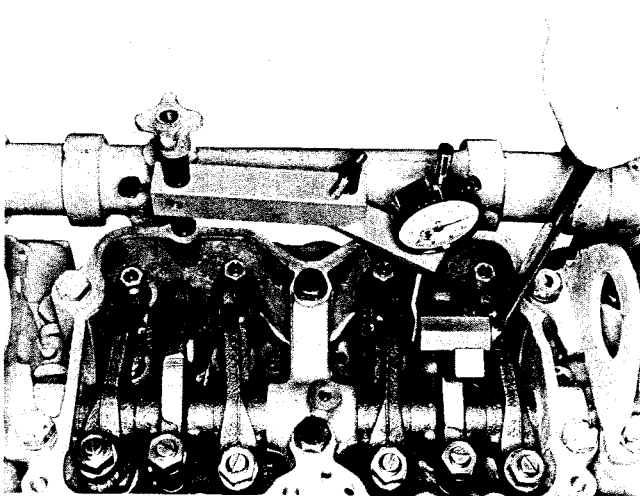

Fig. 2-59, (N114237). Bottoming injector plunger in cup
3. Using ST-1193 Rocker Lever Actuator, Fig. 2-59, or equivalent, bar lever toward injector until plunger is bottomed to squeeze oil film from cup. Allow injector plunger to rise, bottom again, set indicator at zero (0). Check extension contact with plunger top.